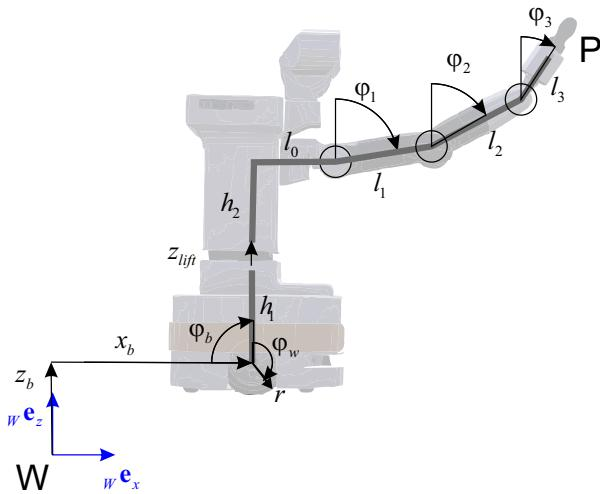

Figure 5: Free floating model in 2D of Thiago
In this exercise we consider the free floating version of the planar Thiago (Fig. 5). Use the variables indicated in the figure.
- (1) Define the generalized coordinates and generalized velocities for the floating base 2D system (Fig. 5). [1 pt]
- (2) Now we assume the robot to be in contact with the floor. What is the contact Jacobian  $\mathbf{J}_{cb} = {}_W \mathbf{J}_{cb}$  between the robot and the ground for the 2D model of Thiago (Fig. 5)? The ground is assumed to have infinite friction such that the wheel will never slip. [2 pts]
- (4) Draw all the reaction forces from window and ground acting on Thiago in steady state in Fig. 5 if the robot must apply a specific horizontal force at point  $P$ . [2 pts]
Draw directly in Fig. 5